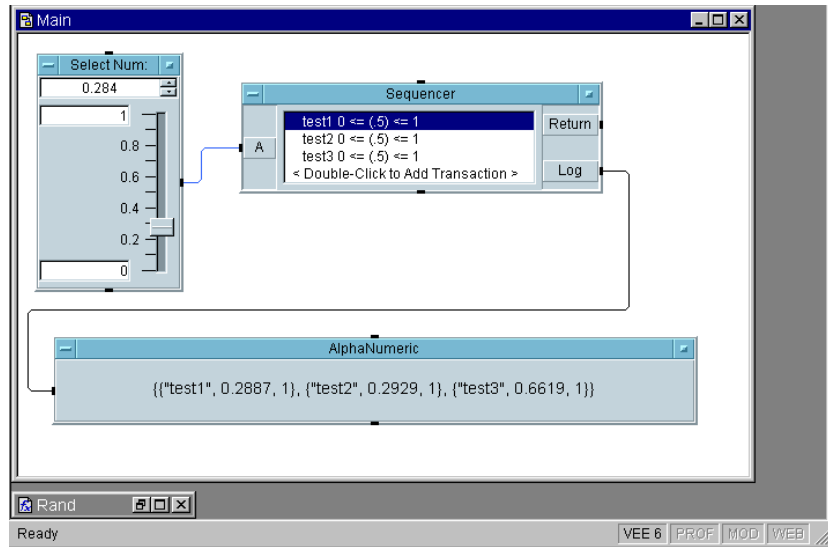

Figure 9-7. Passing Data Using an Input Terminal
3. Save the program again as `seqdat1`. Select a number on the `Real64 Slider` object and run `seqdat1`. It should look like Figure 9-7.